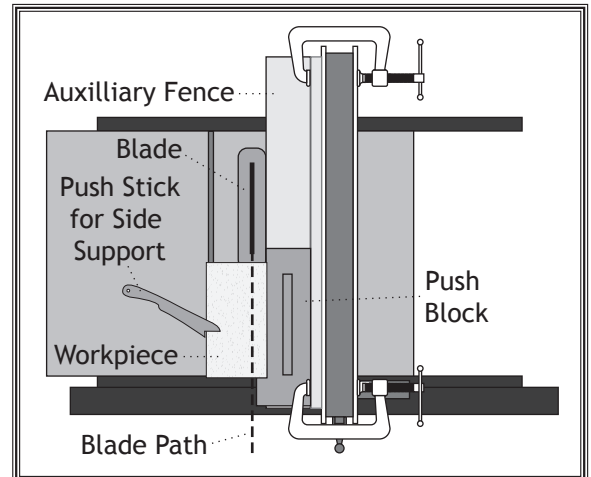

Figure 91. Push block in position to push workpiece through blade.
3. Place workpiece 1" behind blade and evenly against table and auxiliary fence (see **Figure 91**).